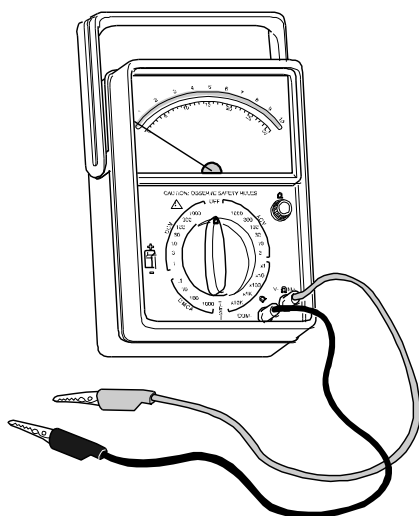

Figure 23 - Ohmmeter.
1. In some older Ohmmeters, there is usually a plastic screw at the centre of the instrument, exactly under the needle indicating the measurement. The needle moves by turning this screw. Turn the screw until the needle is positioned at the "0" shown on the far left of the scale (Fig. 23);